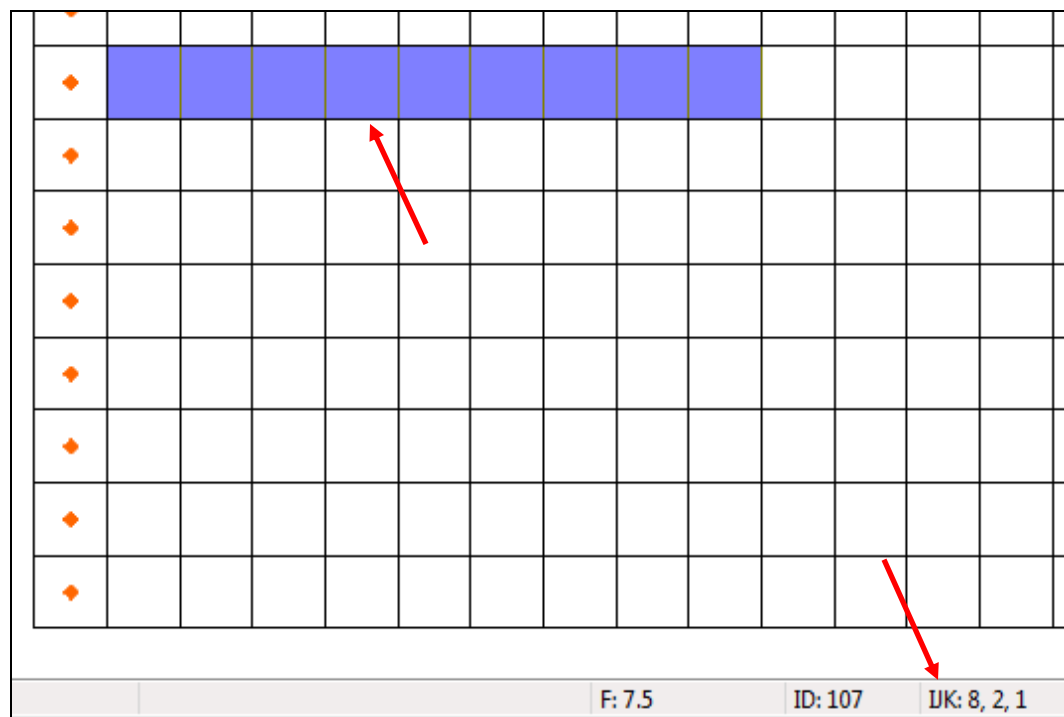

Figure 5 Cells to be selected (top) and IJK indices of cell under cursor (bottom)
Notice that as the cursor moves across the grid, the *IJK* indices of the cell beneath the cursor are displayed in the *Edit Window* at the bottom of the screen (Figure 5, bottom).
1. Using the **Select Cells**  tool while holding down the *Shift* key, draw a box selecting cells 2–10 on row 8 (Figure 5, top). The first cell will indicate “IJK: 8,2,1”, meaning “row 8, cell 2, layer 1” (Figure 5, bottom).